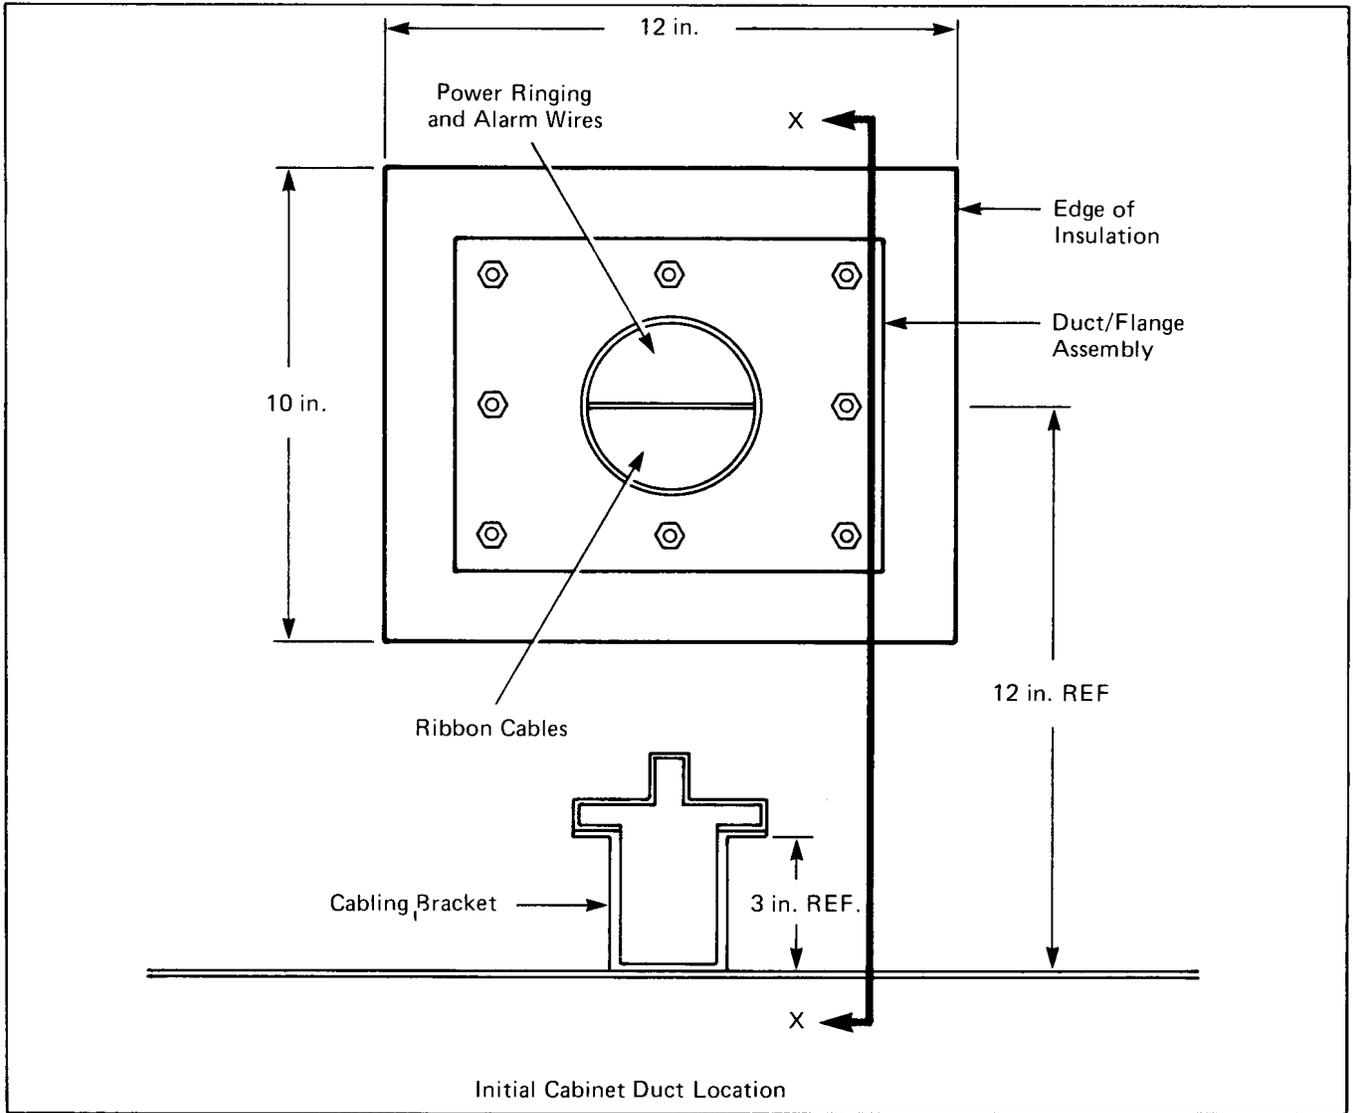

Fig. 20 – Initial Cabinet Duct Location
4.07 Open the doors of the equipment compartment in the initial cabinet, and remove the shipping plate from the dust opening located to the right of the hydro panel on the back wall of the cabinet (Fig. 20). Also, remove the wooden plug from the duct opening of the extension cabinet.